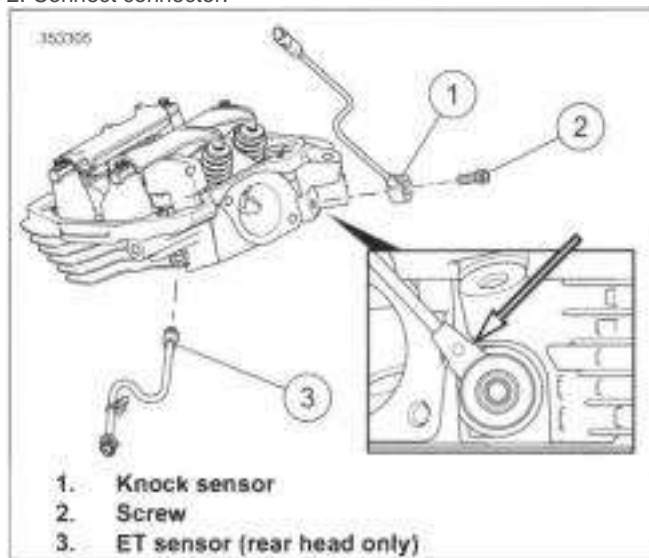

Figure 7-132. Cylinder Head Sensors
1. See Figure 7-132 . Remove screw (2).
3. Remove sensor (1).
1. See Figure 7-132. Install sensor (1).